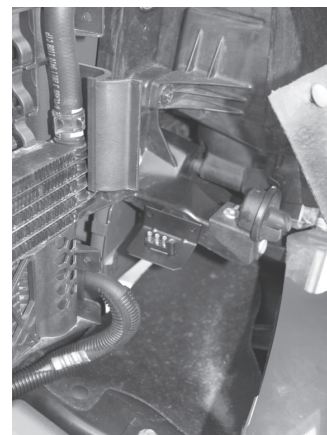

Figure 8
14. Route down behind shield near radiator to location on frame at front of vehicle shown in **Figure 8**.
15. Locate a suitable position to mount the 4-Flat bracket shown in **Figure 8**. Using the bracket as a template mark the two holes and drill two 3/32" holes and attach the bracket using the two remaining screws.